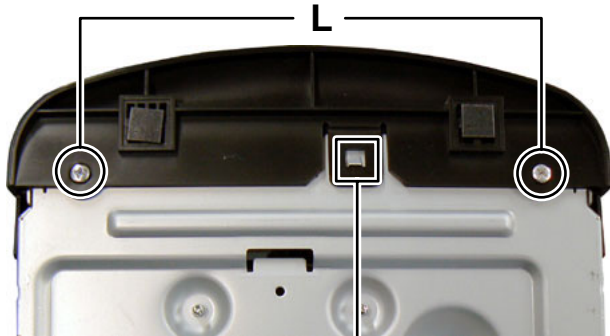

Fig.9
3.1.5 Removing the Front panel (See Fig.9, 10)
- (1) Remove the two screws **L** attaching the Front panel. (See Fig.9)
- (2) Disengage one hook **c** engaged Front panel. (See Fig.9)
- (5) Take out the pickup assembly from traverse mechanism chassis by order. (See Fig.9)